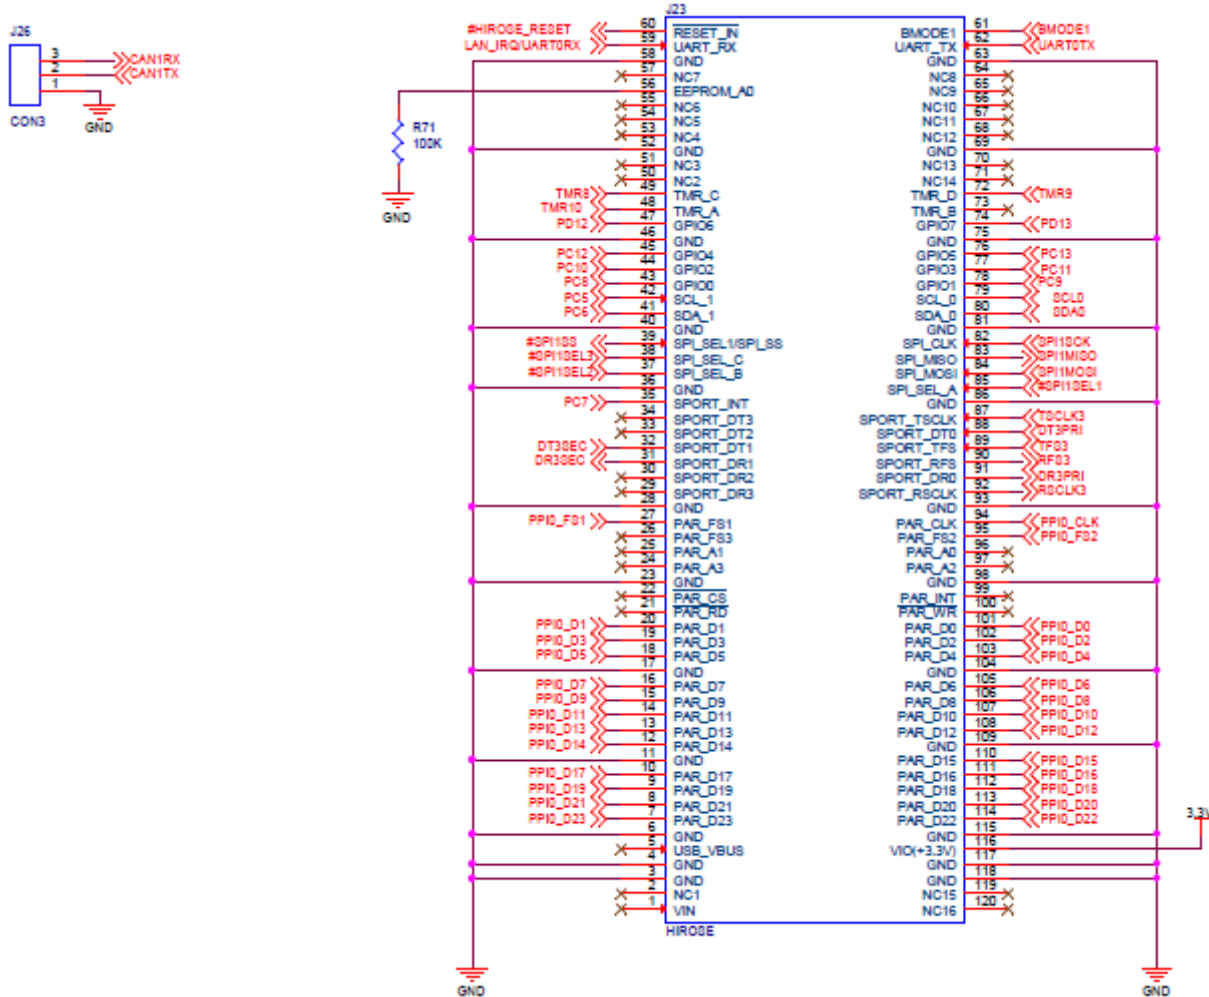

Figure 16. Extender Connector using Hirose FX8 120P-SV(91)
The Hirose FX8 120P-SV(91) extender connector is used for daughter board connections. This allows for additional functionality to be added to the ezLINX hardware. Figure 16